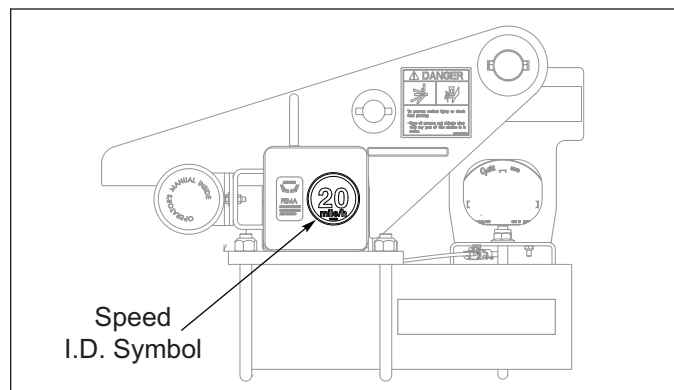

Figure 3-13: Speed Identification Symbol
2. The Pulvi-Mulcher should be transported only by tractor required for field operation. The implement weight should not exceed more than 1.5 times the tractor weight. Maximum transport speed for the Pulvi-Mulcher is 20 mph for the implement and is designated on the speed identification symbol located on the front of the implement. **See Figure 3-13.**